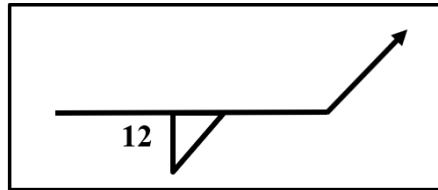

FIGURE 4.1
4.1 What does **12** on the weld symbol in Figure 4.1 represent?